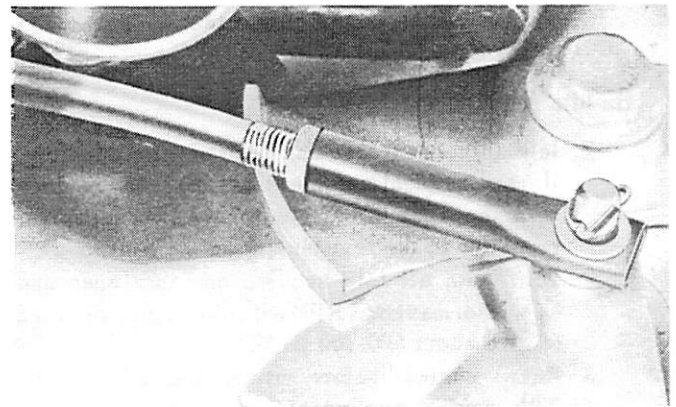

Figure 7. Shift Shaft Adjusting Nut
2. Loosen shift shaft adjusting nut on shift control linkage in bottom cowl. (Figure 7)